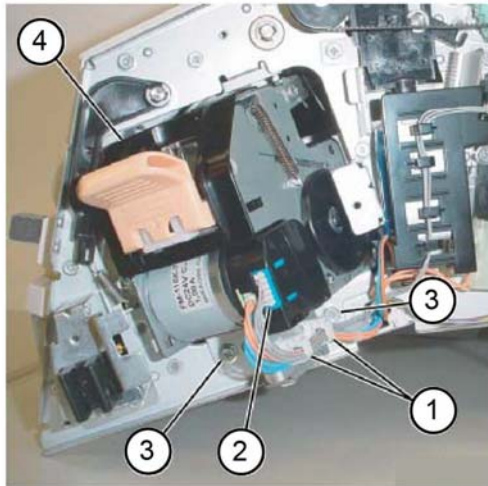

Figure 1 Stapler assembly removal
4. Remove the stapler assembly, Figure 1:
- a. Remove the clamps (1).
- b. Disconnect the connectors (2).
- c. Remove two screws (3).
- d. Remove the stapler assembly (4).